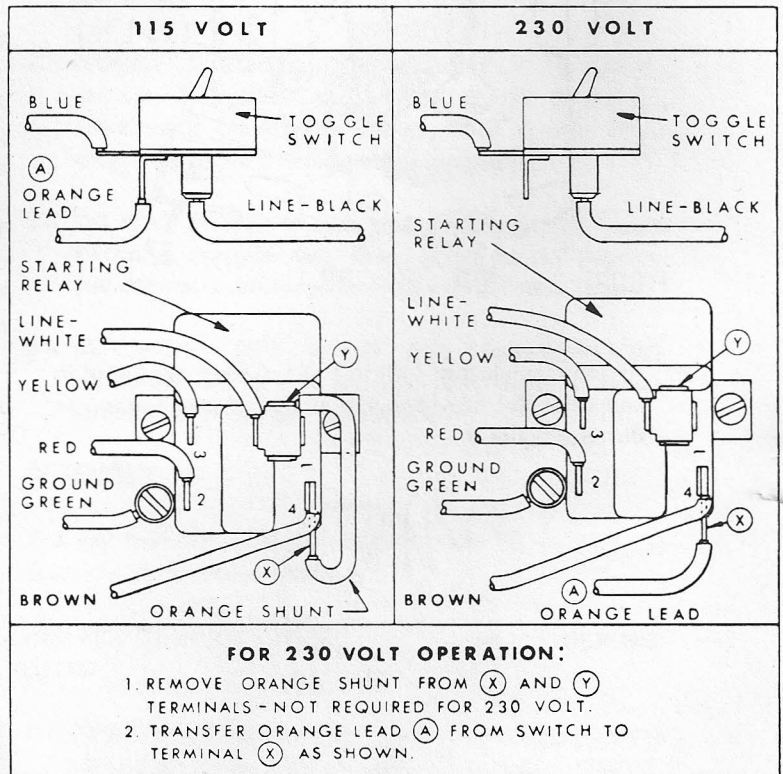

FIGURE 6
2. Study diagram (figure 6) and make changes as directed to revise internal connection for 230 volt operation.